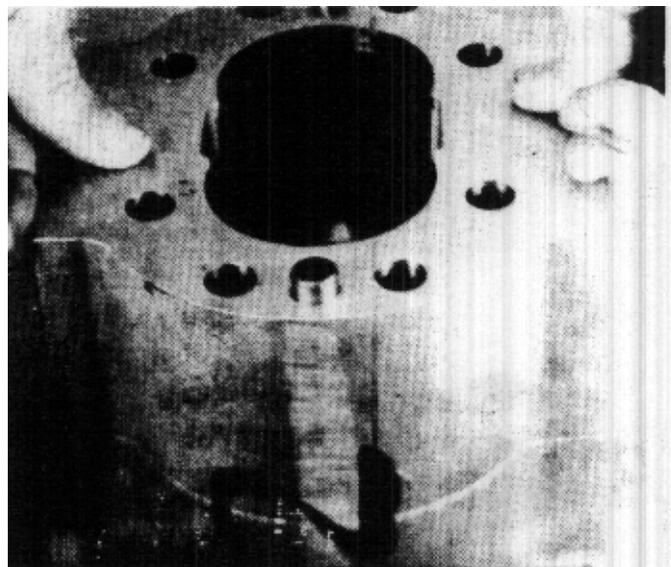

FIGURE 104
43. Install motor body (2) with the mark that was made in Step 2 facing you and with the gear bore facing up. (Fig. 104)